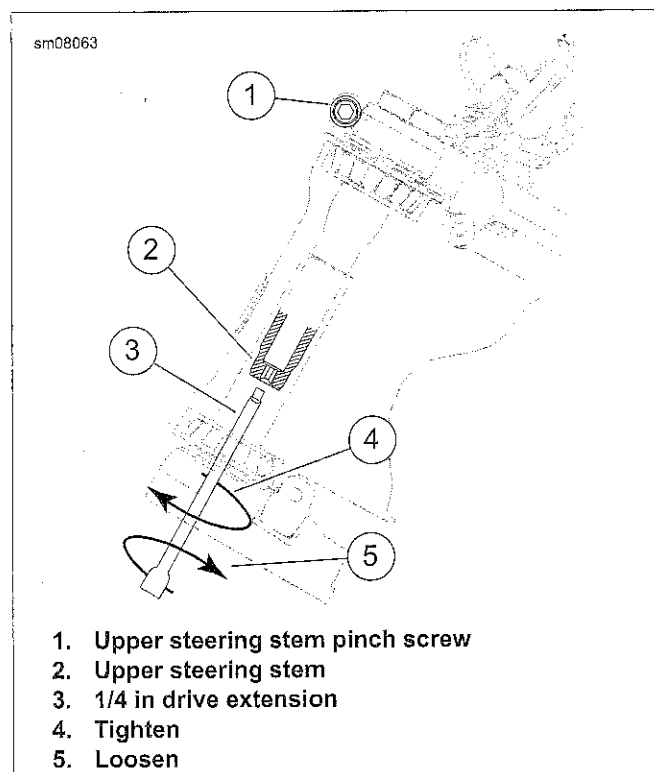

Figure 1-40. Adjust Steering Stem Bearings
2. See Figure 1-40. Loosen upper steering stem pinch screw (1).